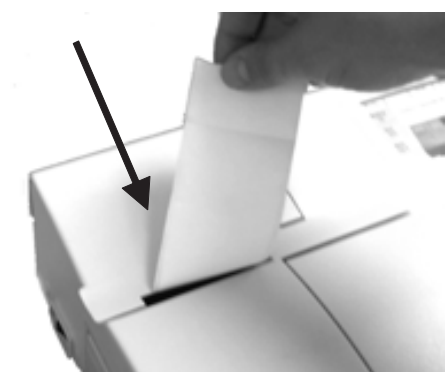

Fig. 6-40 Tear Off Excess Paper
7. Close the top cover of the analyzer and tear off any excess paper (Fig. 6-40).